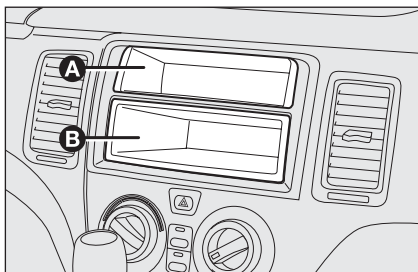

fig. 2
- ☐ with fixed oddment compartment **A** and removable oddment compartment (DIN) **B** for sound system installation **fig. 2**;